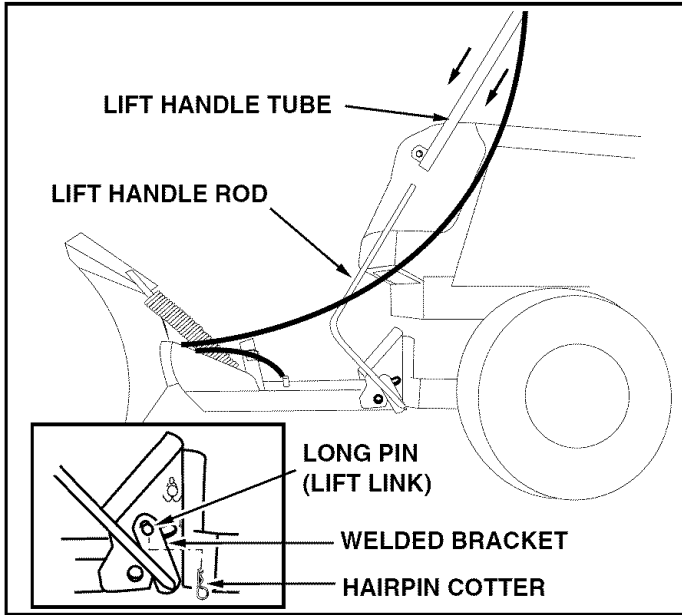

FIGURE 15 (Left Hand Side View)
- From the left side, insert the welded end of the lift handle rod through the exposed holes in the end of the channel assembly. Next, insert the lift link pin through the hole in the bracket that is welded to the lift handle rod. (The lift link is pre-assembled to the pivot support bracket). Secure the bracket with a hairpin cotter inserted up through the lift link pin all the way to the loop end of the hair pin cotter. See figure 15.
- Using the furnished grease packet, apply a light coating of grease to the straight upper portion of the lift handle rod. Slide the lift handle tube onto the rod. See figure 15.